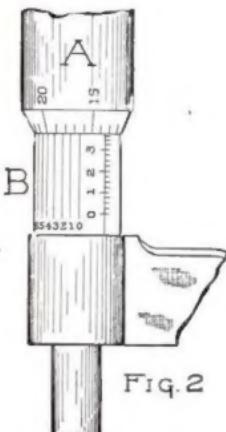
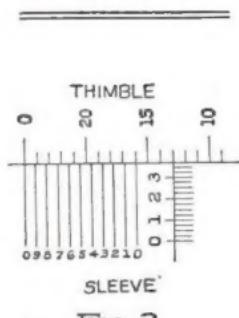

FIG. 2
FIG. 3
THE Micrometer reading to one ten-thousandth part of an inch has additional graduations around the sleeve "B," called a vernier graduation. Ten of these graduations on the sleeve "B" are equivalent to nine on the bevel of the thimble "A." (See Fig. 3.)
The reading of the vernier is as follows : Find the vernier graduation which coincides exactly with some graduation on the bevel of the thimble. The number of this vernier line is the number of ten-thousandths to be added to the thousandth reading, determined as previously indicated. Another way of expressing it is to say that this figure is the one in the fourth place to the right from the decimal point. Thus the reading shown in the cut (Figs. 2 and 4) is .3884, the line marked 4 being the only vernier line coinciding with a graduation on the thimble. If both vernier lines marked 0 and 0 coincide with lines on the thimble, then the reading for ten-thousandths, or the fourth place to the right of the decimal point, is zero (0), that is, the reading is exactly to thousandths. (See Fig. 3.)